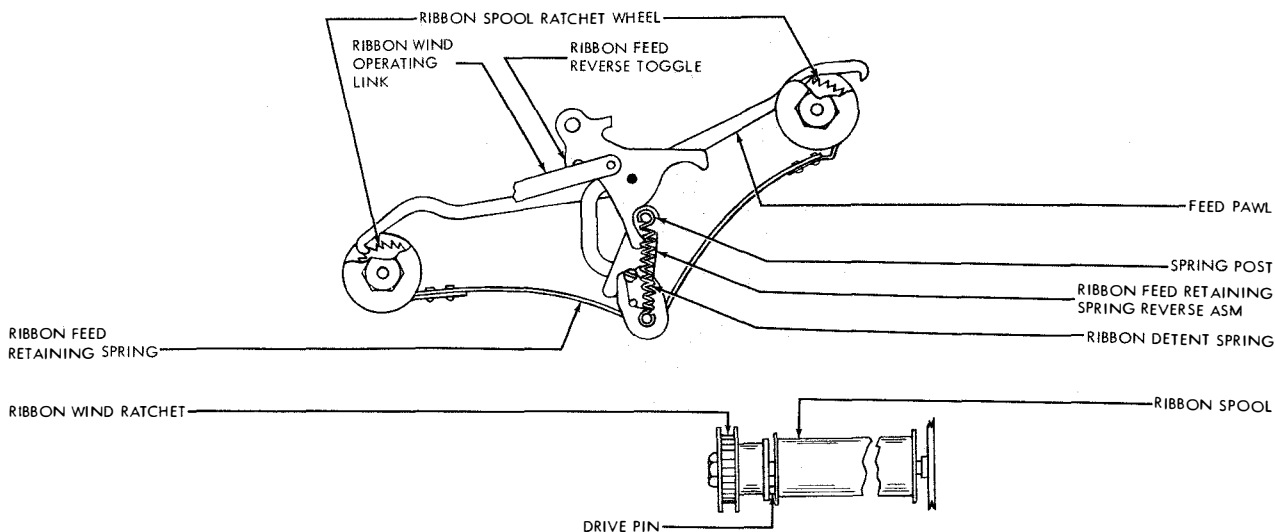

Figure 2-30. Ribbon Feed Mechanism
(4) RIBBON FEED MECHANISM. (See figure 2-30.)—The ribbon feed mechanism and ratchets are mounted on the typehead left side frame. The two ratchets are identical but are mounted opposite each other because of the method for feeding the ribbon. The ribbon feed mechanism is mounted on the ribbon ratchet mounting plate at the back of the typehead base. A lever pinned to one of the arms of the fork plate assembly is actuated up and down each time the tape is stamped. A pawl riveted to this lever engages the teeth of the ratchet wheel mounted on the plate and advances the ratchet one tooth each time the tape is stamped.